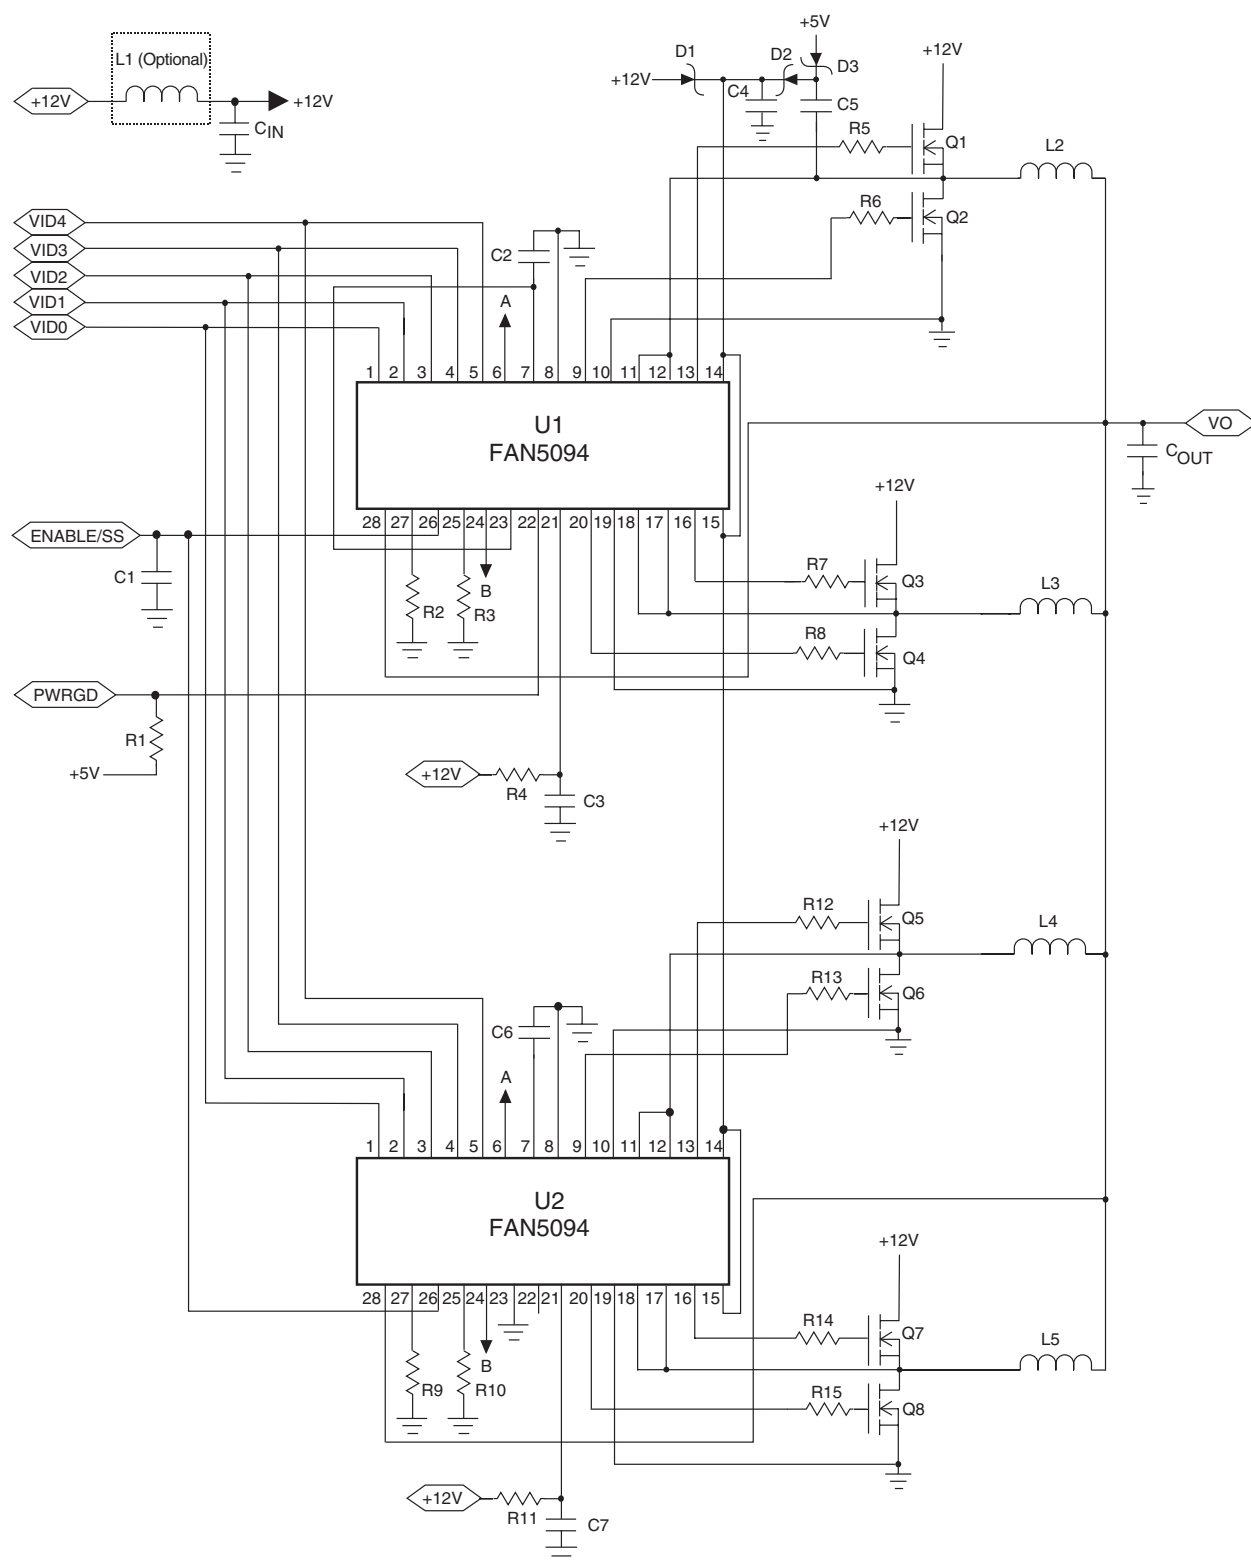

Figure 2. Four-Phase Application Circuit for 81A Northwood Processor
**Table 3. FAN5094 Application Bill of Materials for Figure 2**